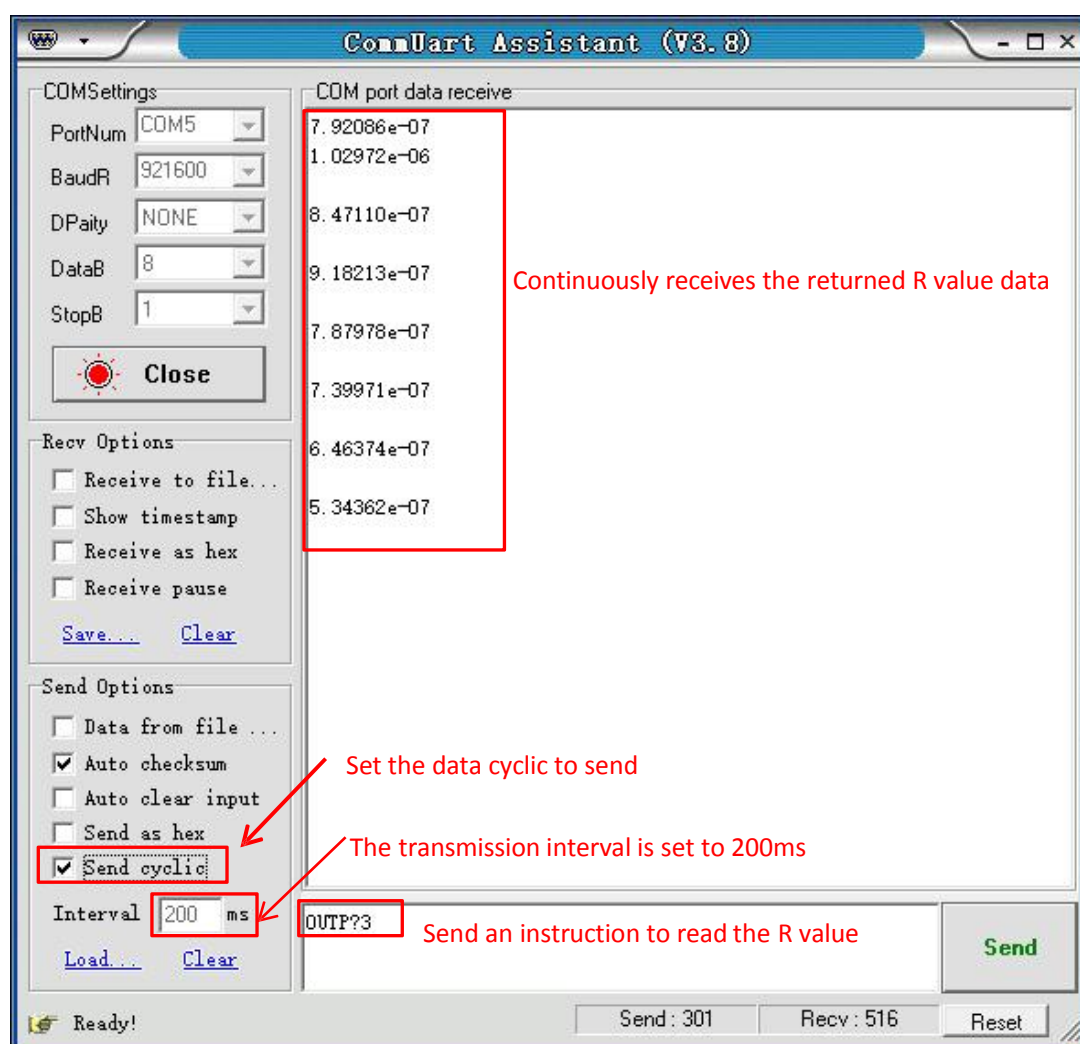
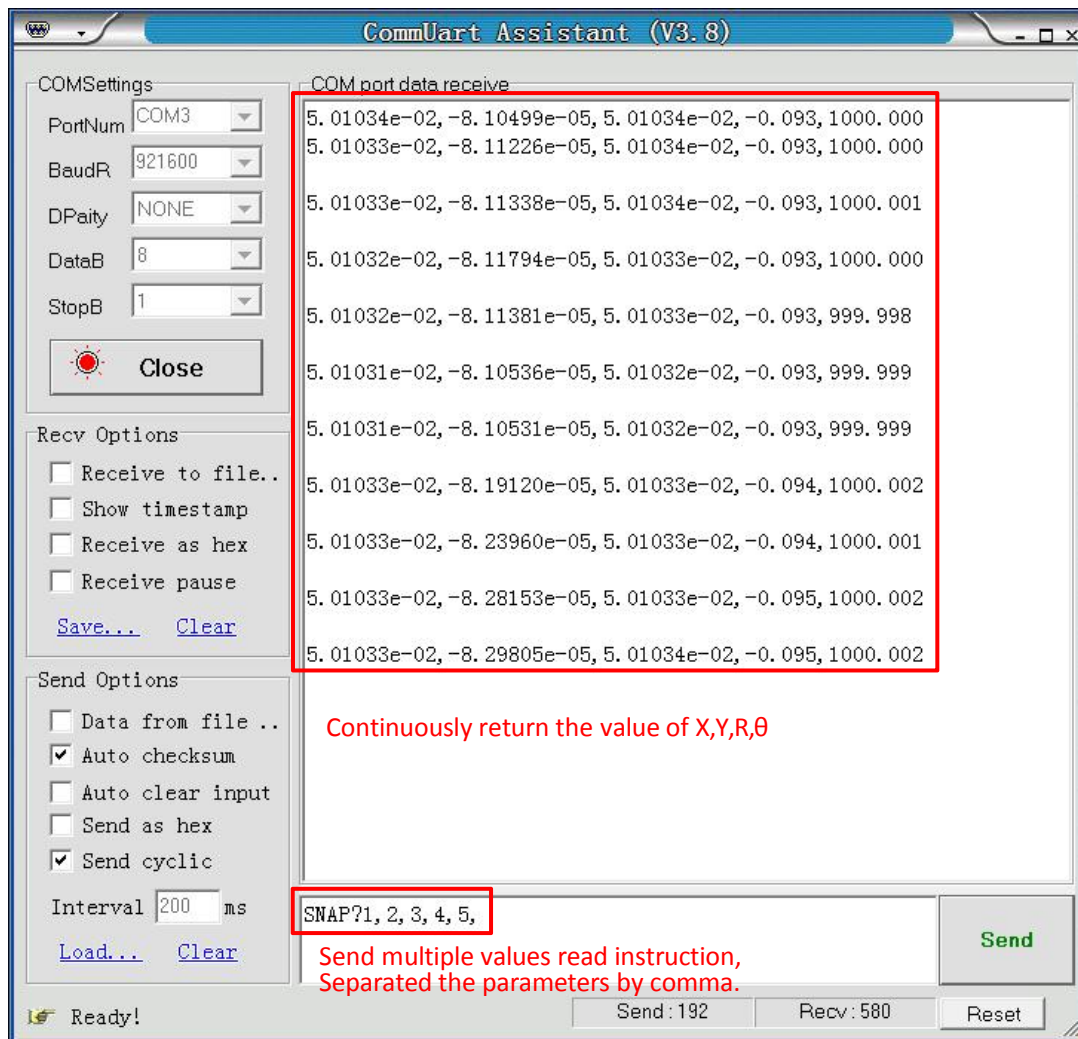

Fig.113 Read the single R value continuously
Fig.114 Read the Values of X, Y, R, θ and Freq continuously
(4) If you want to read the values of <X>, <Y>, <R>, < θ > and Freq continuously, you can set the transfer interval time as Fig.113 and Fig.114.